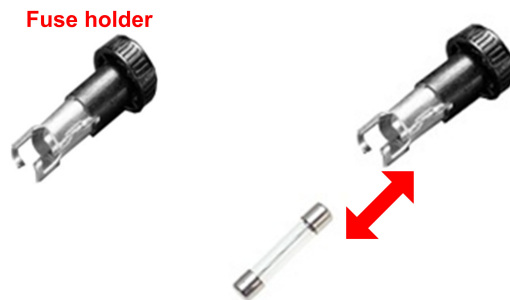

Figure 4.2: Replacing the fuse in the fuse holder
4. As shown in Figure 4.2, remove the old fuses from the holders and insert the new ones.